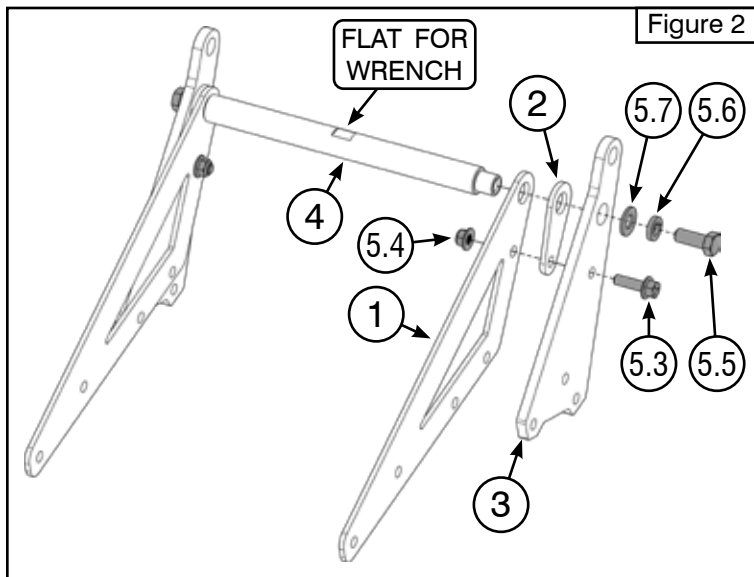

Figure 2
2. Loosely assemble gusset (1), spacer (2), and ear (3) onto rod (4) using bolts (5.5), lock washers (5.6), and flat washers (5.7). Refer to **Figure 2** for orientation.
3. Loosely install bolts (5.3) and lock nuts (5.4) through the ear (3), spacer (2), and gusset (1). See **Figure 2**.
Note: When tightening bolts (5.5), use a 7/8" wrench or an adjustable wrench on the flat spot of rod (4) to prevent it from rotating. See **Figures 2 and 4**.